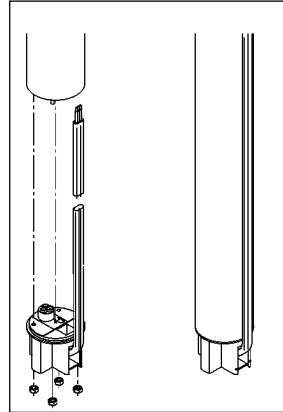

Fig. 6
The plug will only fit one way, see fig. 6.
5. Install and tighten the four nuts, see fig. 6. When the plug has been installed, there must not be a clearance between the motor and the cable plug.